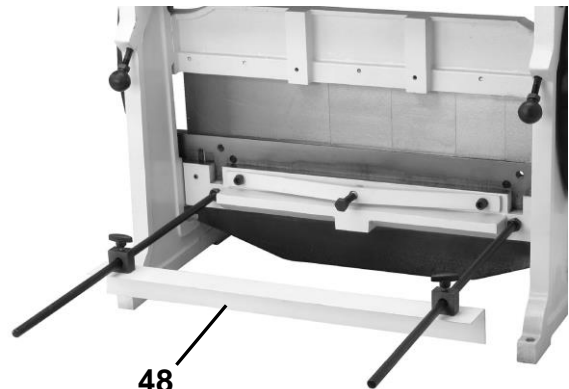

figure 5
1. Adjust the rear stop (#48) to accommodate the length of the cut (fig. 5).